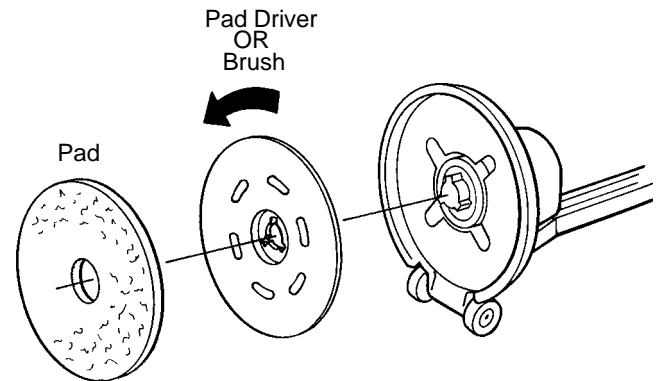

FIG. 1.
4. Position brush/pad driver on driver lug and turn counter-clockwise to secure (Figure 1.).
5. To install pad, position pad on pad driver and tap with hand to secure (Figure 1.).